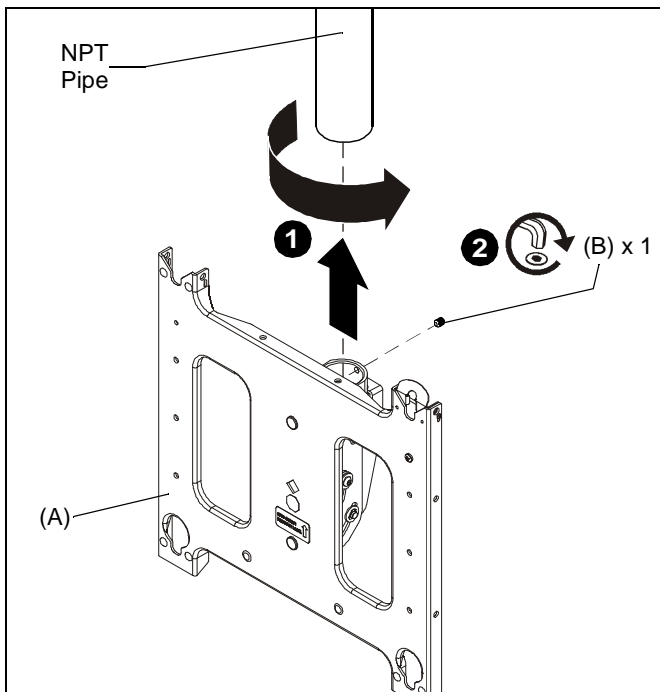

Figure 1
1. Thread the PCS mount (A) onto the existing 1-1/2" NPT or NPSM pipe (not included) until tight. (See Figure 1)
2. Install and tighten the 5/16-18 x 3/8" set screw (B) using the 5/32" hex head wrench (C). (See Figure 1)